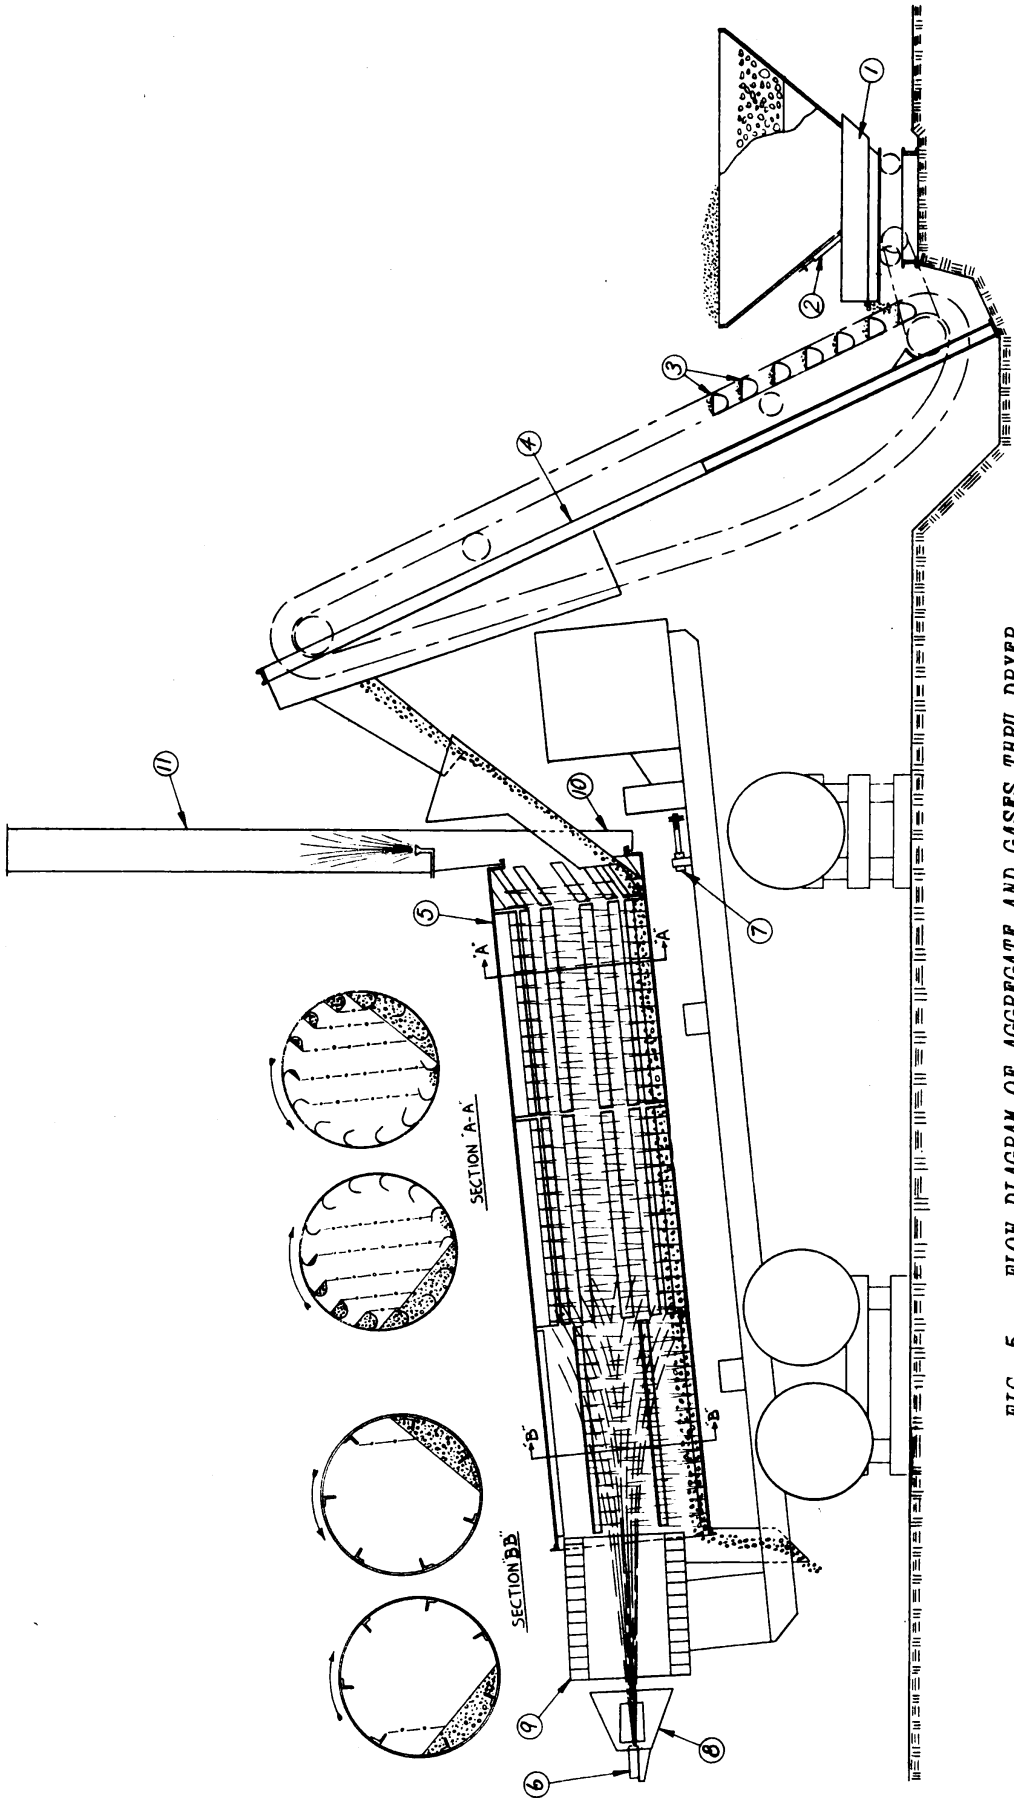

FIG. 5 - FLOW DIAGRAM OF AGGREGATE AND GASES THRU DRYER.
The flame is introduced at one end of the drums and the wet aggregates are fed in at the other end using the counter flow method. The drums are tipped at a suitable angle to feed the aggregates thru the drums as the aggregates are elevated and spilled by cupped flights in the rotating drums. The cupped flights are shaped and spaced to insure cascading across the entire cross section of the drum giving intimate contact with the hot gases. See Section "AA" Fig. 5.
The flow of aggregate thru the dryer starts at the reciprocating feeder (1) Fig. 5. The feeding mechanism of the feeder is kept filled with aggregate by means of a bull-dozer, clamshell, or some other type of available material handling equipment.